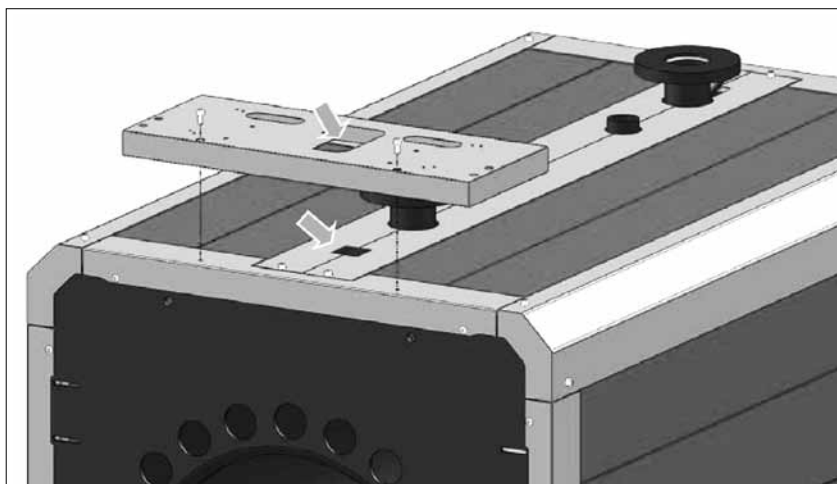

fig. 17
6) The control panel supplied with the boiler must be mounted on the support provided in the kit and attached to the front crossbar of the boiler. Pass the cable through the opening shown (see fig. 17).